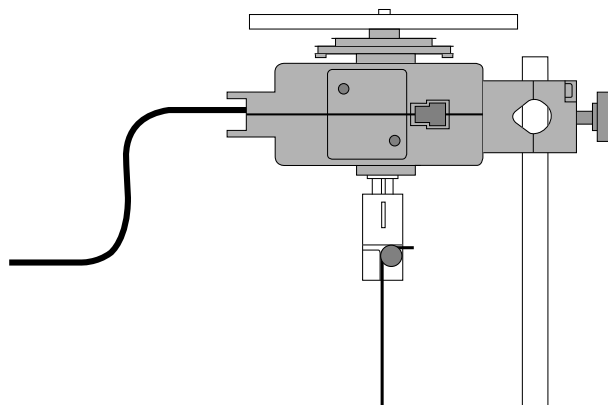

Figure 5
8. Align the guide of the upper wire clamp with the slot in the rotary motion sensor's shaft, as shown in Figure 5.
9. Adjust the height of the lower wire clamp as necessary to position the top of the upper wire clamp approximately halfway up the shaft, as shown in Figure 5.